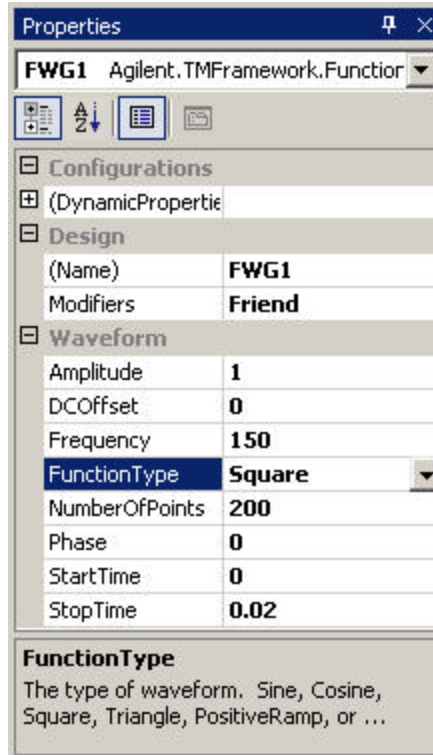

Figure 14 FWG1 Property Settings
- 4** Configure the Properties of the FWG1 as shown in Figure 14 on page 55.